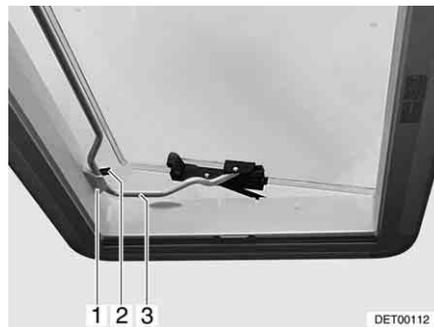

Fig. 63 Heki skylight in ventilation position 2
- Insert the bar (Fig. 63,3) into the holder (Fig. 63,1).
- Place the lever (Fig. 63,2) over the bar.